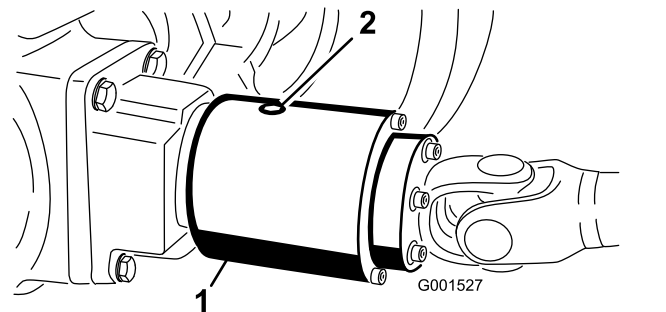

Figure 60
2. Rotate the clutch (Figure 60) to align the check plug at the 4 o'clock position.